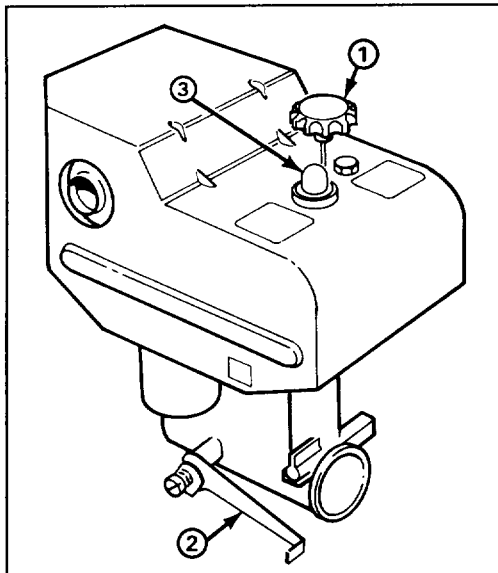

Figure 10
Throttle (Fig. 10)—Moving the throttle upward increases the engine speed.
Choke (Fig. 10)—Choke is located on left side of engine. Push choke down to FULL choke position to start a cold engine. As engine warms up, move choke gradually to OFF.
Primer (Fig. 10)—Press primer to pump small amount of gasoline into engine for improved cold weather starting.
3. Move choke to ON choke position (Fig. 10).
5. Depress primer (Fig. 10) five times.
7. After engine starts, immediately move choke (Fig. 10) to 3/4 position. As engine warms up, move choke to